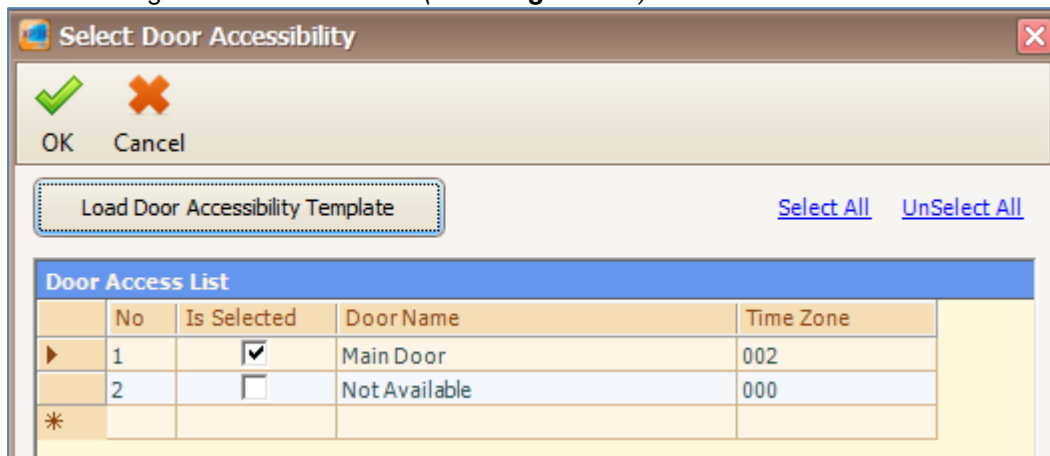

Figure 212 - Loaded Door Access
12. The following screen will be shown (Refer **Figure 212**).